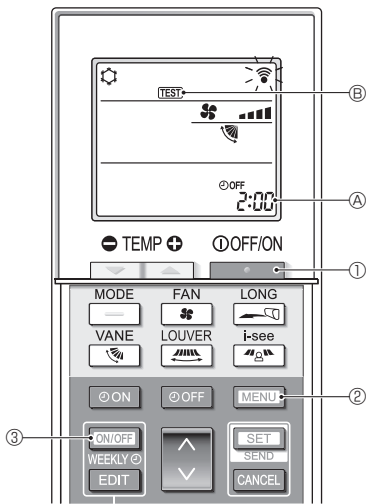

Fig. 7-5
7.2.2. Using wireless remote controller (Fig. 7-5)
- Press the [ON/OFF] button ① to stop the air conditioner.
- If the weekly timer is enabled (WEEKLY is on), press the [ON/OFF WEEKLY] button ③ to disable it (WEEKLY is off).
- Press the [MENU] button ② for 5 seconds.
- Press the [MENU] button ②.
- Press the [TEST] button ② comes on and the unit enters the test run mode.